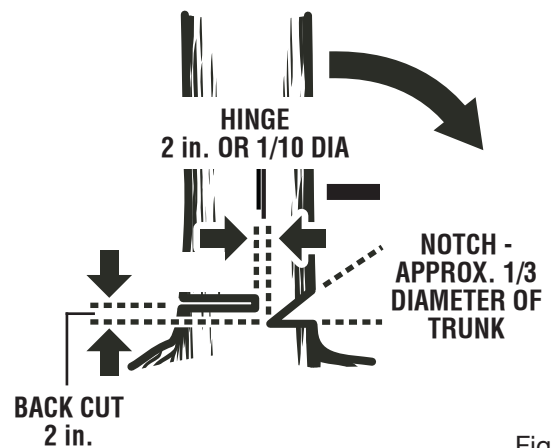

Fig. 14
- **Notched Undercut.** Cut a notch about 1/3 the diameter of the tree, perpendicular to the direction of fall. Make the cuts of the notch so they intersect at a right angle to the line of fall. This notch should be cleaned out to leave a straight line. To keep the weight of the wood off the saw, always make the lower cut of the notch before the upper cut. *See Figure 14.*
- **Felling Backcut.** The backcut is always made level and horizontal, and at a minimum of 2 in. above the horizontal cut of the notch. See Figures 14 - 15.
- Never cut through to the notch. Always leave a band of wood between the notch and backcut (approximately 2 in. or 1/10 the diameter of the tree). This is called "hinge" or "hingewood." It controls the fall of the tree and prevents slipping or twisting or shoot-back of the tree off the stump. See Figures 14 - 15.